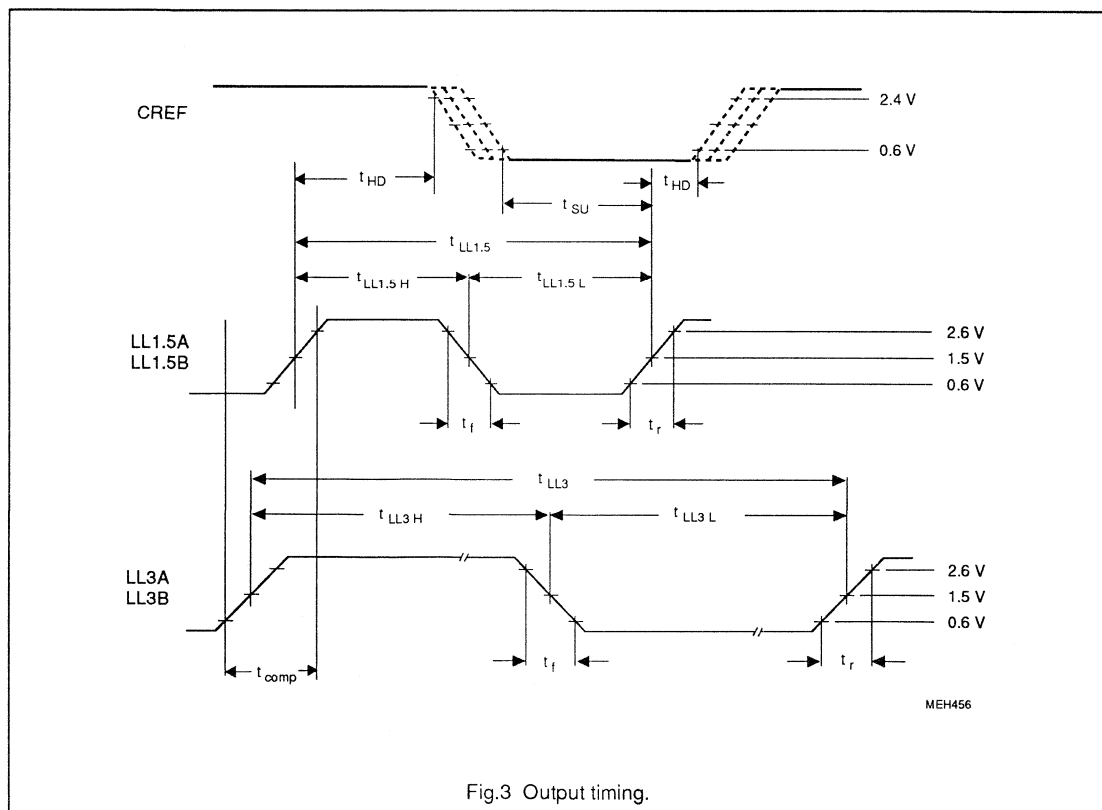

Fig.3 Output timing.
| f_{CREF} | output frequency CREF | Fig.3 | - | $2 f_{LFCO(2)}$ | | MHz |
| t_{SU} | set-up time | Fig.3; note 1 | 12 | - | - | ns |
| t_{HD} | hold time | Fig.3; note 1 | 4 | - | - | ns |
| t_{comp} | composite rise time | Fig.3; notes 1 and 2 | - | - | 8 | ns |
| f_{LL} | output frequency LL1.5A | Fig.3 | - | $4 f_{LFCO(2)}$ | | MHz |
| t_r, t_f | rise and fall times | note 1; Fig.3 | - | - | 5 | ns |
| t_{LL} | duty factor LL1.5A, LL1.5B, LL3A and LL3B (mean values) | note 1; Fig.3; at 1.5 V level | 43 | 50 | 57 | % |
- $f_{LFCO} = 7.0$ MHz and output load 40 pF (Fig.3). V_{SSA} and V_{SSD} short connected together.
- t_{comp} is the rise time from LOW of all clocks to HIGH of all clocks (Fig.3) including rise time, skew and jitter components. Measurements taken between 0.6 V and 2.6 V. Skew between two LLx clocks will not deviate more than ± 2 ns if output loads are matched within 20 %.